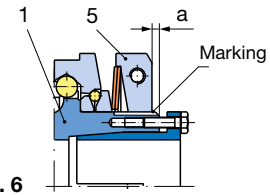

Fig. 6
□ EAS®-Compact® overload clutch (Sizes 01 - 3): Dimension “a” is the distance between the adjusting nut facing-side (5) to the hub edge (1) (Fig. 6).